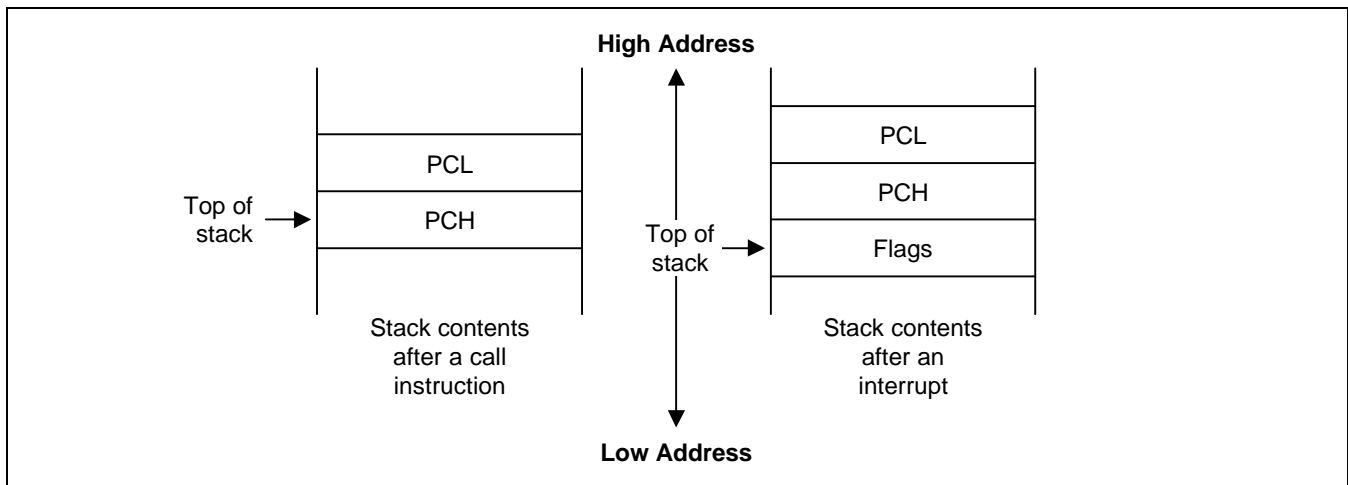

Figure 2-15. Stack Operations
Return addresses for procedure calls and interrupts and data are stored on the stack. The contents of the PC are saved to stack by a CALL instruction and restored by the RET instruction. When an interrupt occurs, the contents of the PC and the FLAGS register are pushed to the stack. The IRET instruction then pops these values back to their original locations. The stack address value is always decreased by one before a push operation and increased by one *after* a pop operation. The stack pointer (SP) always points to the stack frame stored on the top of the stack, as shown in Figure 2-15.